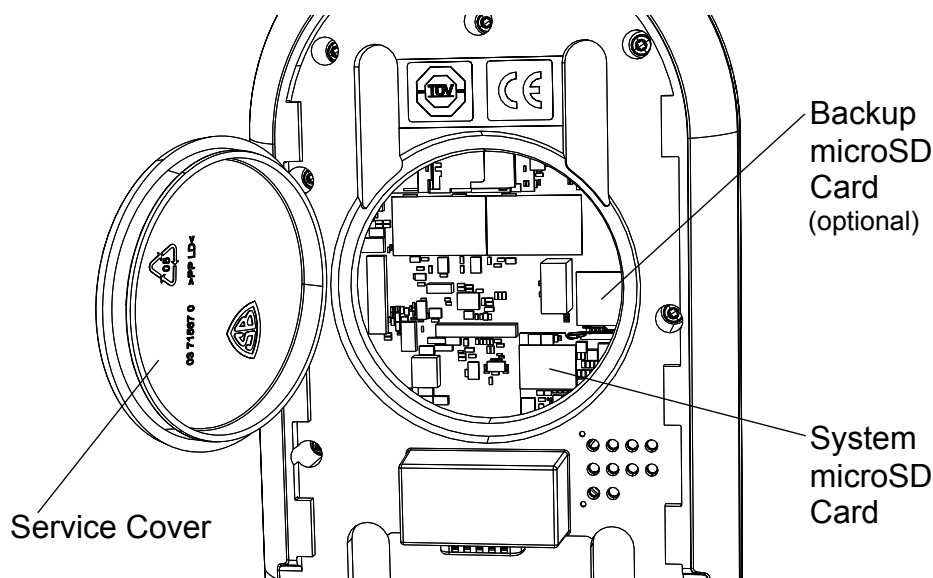

Figure 7-33 Micro SD Card Location
- STEP 3:** Insert the micro SD card containing the new system software into the "System microSD card" slot (see **Figure 7-33**).
Refer to Figure 7-33 for the location of the micro SD slot that may be used.